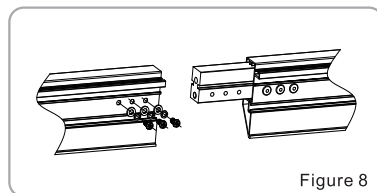

Figure 8
4. For long frame which are divided into parts for easy transportation (normally divided into 2-6 parts when the total length is over 4 meters, see figure 8).